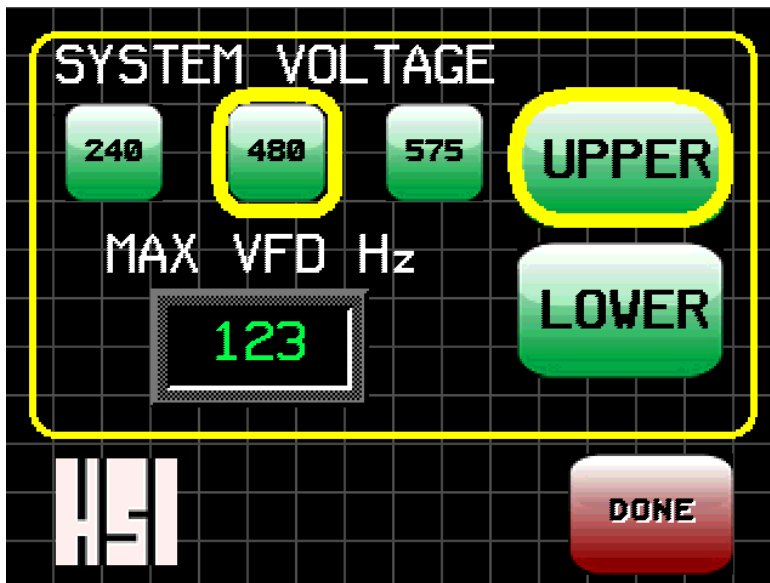

Figure 3.8
2. Select the correct voltage, Max VFD Frequency, and Upper or Lower Distributor Style (Figure 3.8).